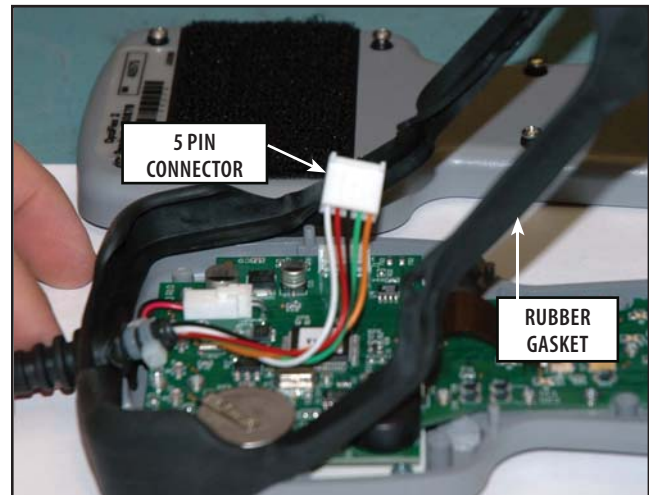

FIGURE 6.22
4. Detach the 5 pin connector from the Control Board of the Pendant. Refer to Figure 6.22.